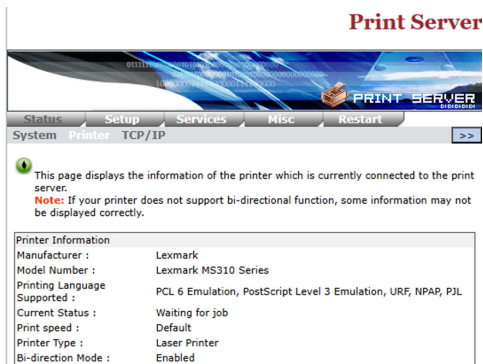

Figure 18
- Navigate to the **Setup** tab, then click the **Printer** sub-tab to ensure the connected **Printer** is being detected. (Figure 18)